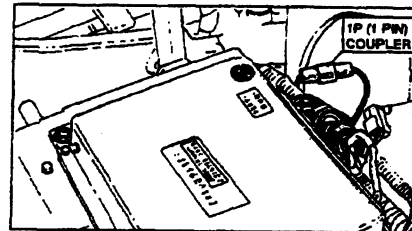

FIGURE 6.37
25. Remove the Special Adjustment Harness from the 1P coupler and connect 1P coupler together. See Figure 6.37.